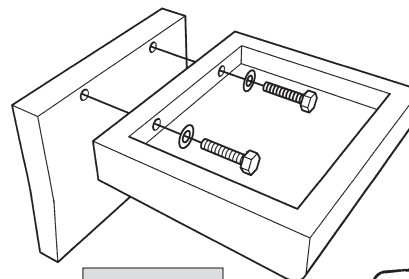

Figure 7
4. Attach seat cushions to back cushions using 3" hex bolts and washers as shown in figure 7. Keep these bolts loose for now. Repeat until all cushion sets are assembled.